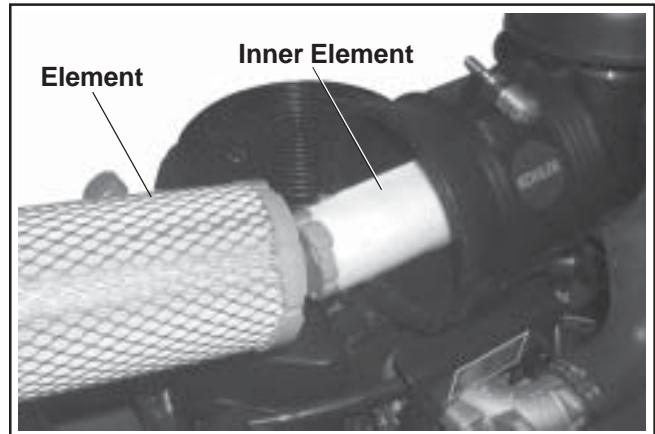

Figure 4-10. Removing Elements.
2. Pull the air cleaner element out of the housing. See Figure 4-10.